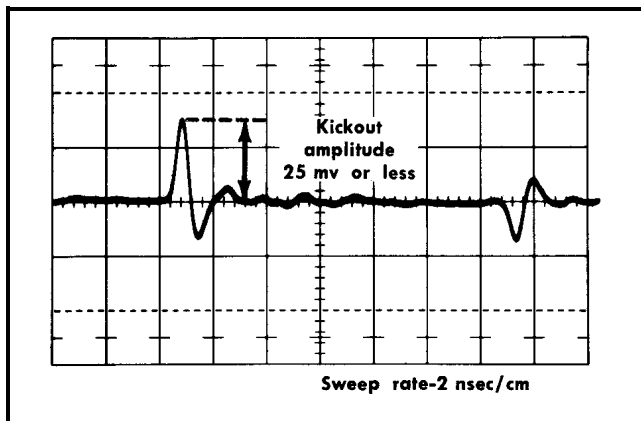

Fig. 5-65. Typical indicator oscilloscope display for checking external trigger kickout.
- Check the display for 25mv (2.5 cm) or less of trigger kickout (see Fig. 5-65).